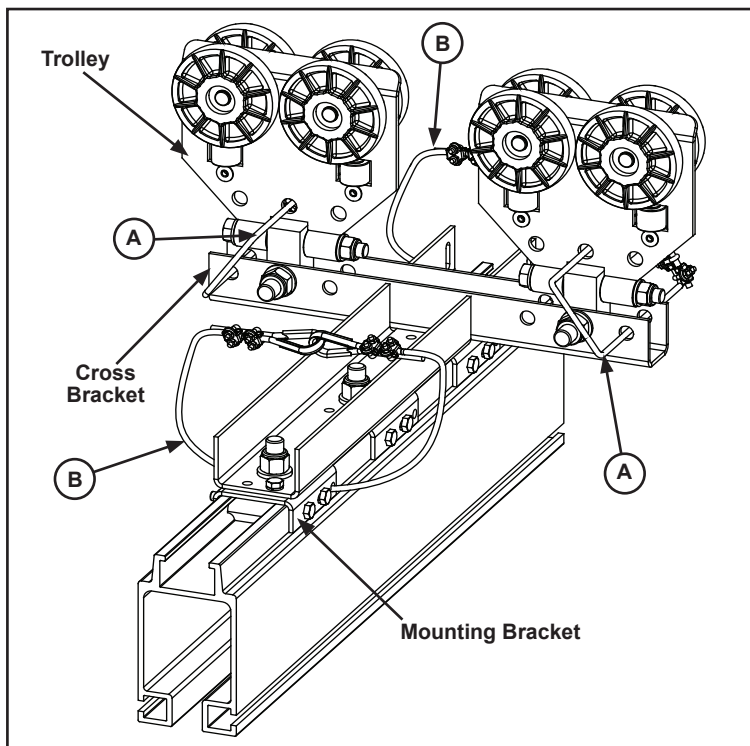

Figure 3-149
**Rigid End Trucks** (See Figure 3-149)
- Step 1. Insert safety cables (A) through bottom center hole of each trolley and feed through end hole of cross bracket.
- Step 2. Use top rail mounting bracket as template to mark rail and drill four (4) holes on each end of mounting bracket, using 13/32 in (11 mm) drill bit. Do not attempt to drill holes in-line.
- Step 3. Feed safety cables (B) through holes drilled in rail. Insert cable through mounting bracket.
**Note:** If end trucks are cross-bolted to rail, safety cables (B) are optional based upon plant specific safety regulations.